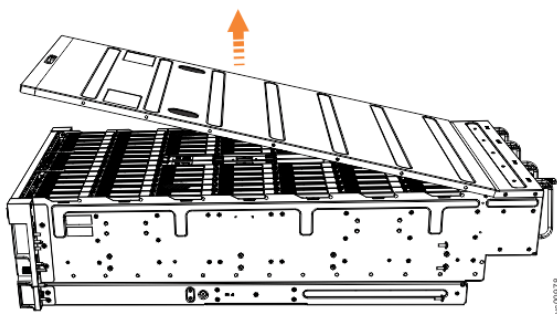

Figure 97. Removing the 5U expansion enclosure cover
4. Carefully lift the cover up, as shown in Figure 97 on page 160.